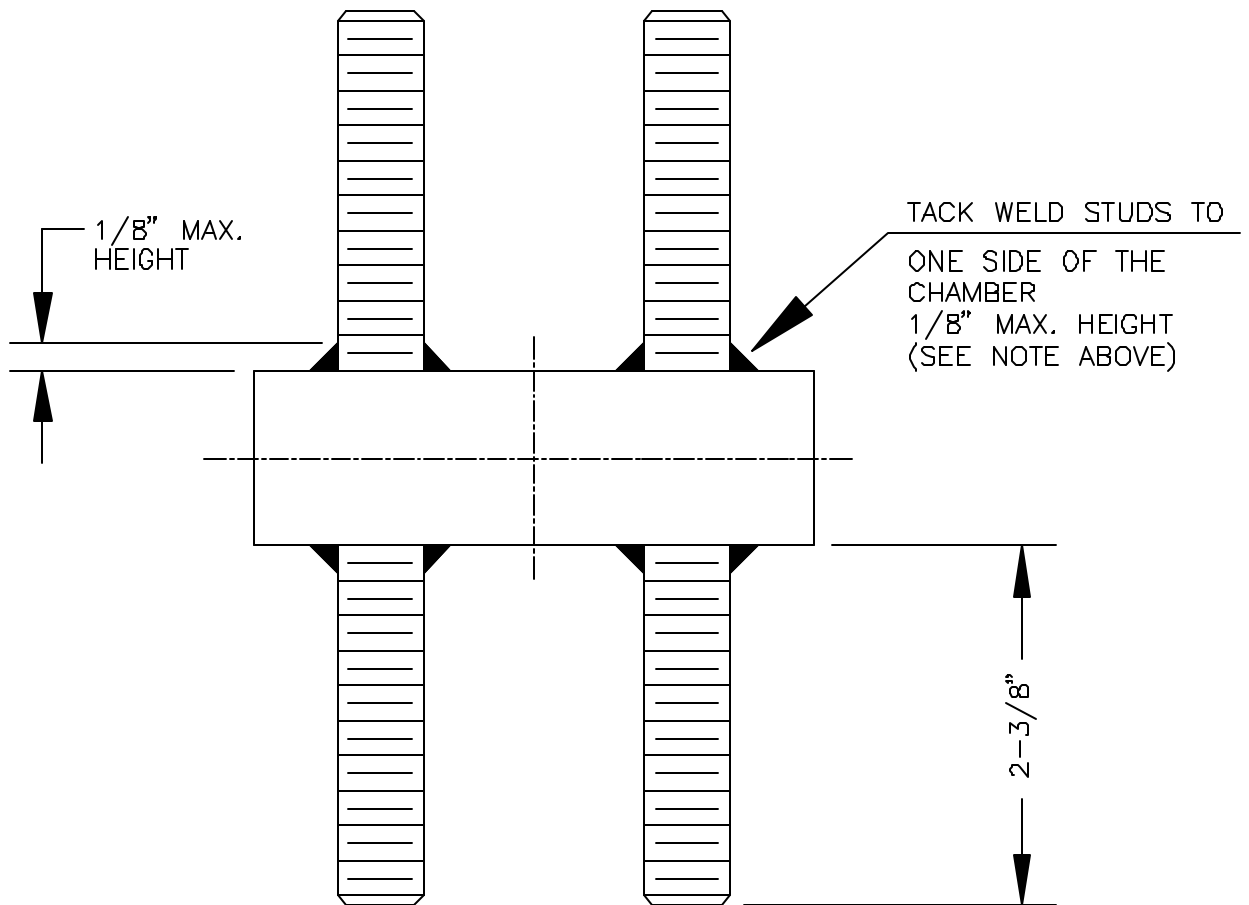

FIGURE 7
6. Install and tack weld new studs in chamber as shown in Figure 7.